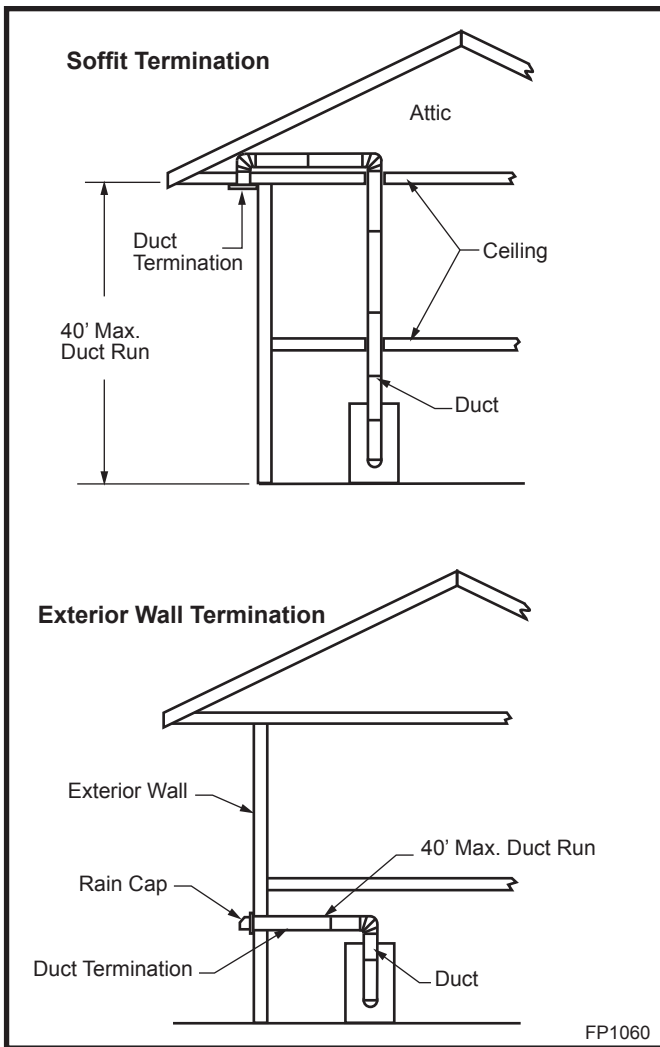

Fig. 7 Typical outside air installations.
Duct run must be limited to a maximum distance of 40' (12.2m) from the fireplace pipe collar to duct termination. This will provide the least restriction to air flow. No more than four (4) 90° elbows can be used. Duct run may be horizontal, vertical, inclined or any combination of these. (Fig. 7) You are now ready to install the Outside Air Kit.